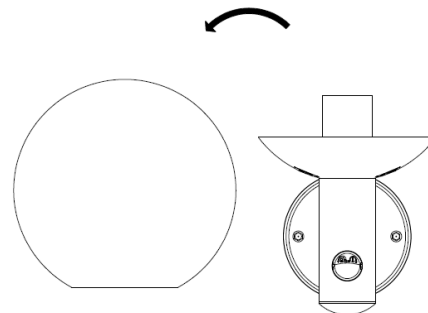

FIGURE 8
- (3) Lift off the glass globe and place carefully in a safe place so it does not get damaged. FIGURE 8